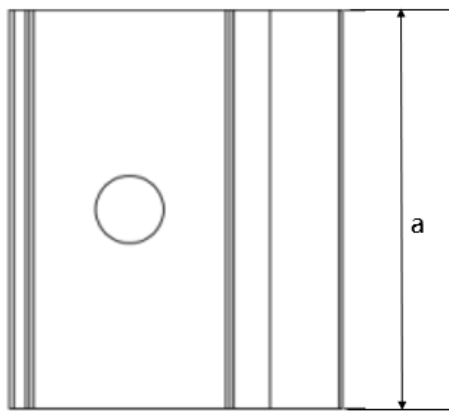
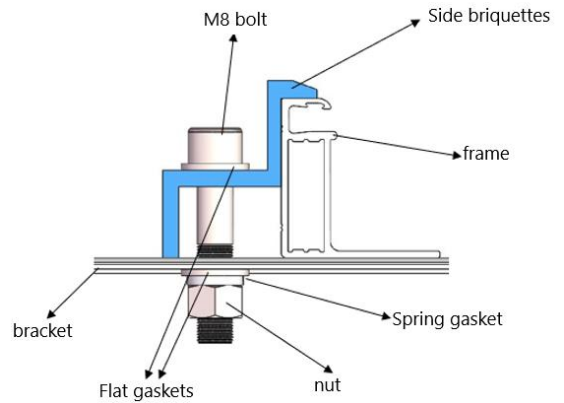

Fig. 7 Top view of fringe clamp
Fig. 9 Installation schematic diagram of fringe clamp
- ① Place the module on the two supporting rails (not provided by Astronergy) which should be made with stainless material and treated with an anti-corrosion process (e.g. hot dipped galvanizing). Each PV module needs at least four clamps to be fixed. The module clamps should not come into contact with the glass and should not deform the frame, otherwise they may cause module damage.
- ② Be sure to avoid shadowing effects from the module clamps. Weep holes on the module frame must not be closed or obscured by the clamps. The clamp must have at least 8mm but no more than 11mm overlap with the frame of the module (The clamp section can be changed under the premise of ensuring reliable installation).
- ③ The top surface of the rail contacted with module frame should be equipped with grooves compatible with an M8 bolt.
- ④ If the grooves are not provided, holes of a suitable diameter may need to be drilled to allow bolts attaching to the rail at the same locations as mentioned above.
- ⑤ Ensure that the mounting sequence of each clamp is in the order of flat washer, spring washer and nut.
⑥ Figures 7 and 8 show the schematic diagram of the clamp, while Figures 9 and 10 show the installation schematic diagram of the clamp. The dimensions of the clamp are $a \geq 40$ mm, $b \geq 16$ mm, $c \geq 5$ mm, $d \geq 8$ mm, $e \geq 15$ mm, $\varnothing = 9$ mm, and the thickness of the clamp is ≥ 3 mm. For module of 182/210mm-wafer, the size of mid and fringe clamp must meet $a \geq 60$ mm. The tightening torque is suggested to be 17~23Nm for Class 8.8 screw and bolts.